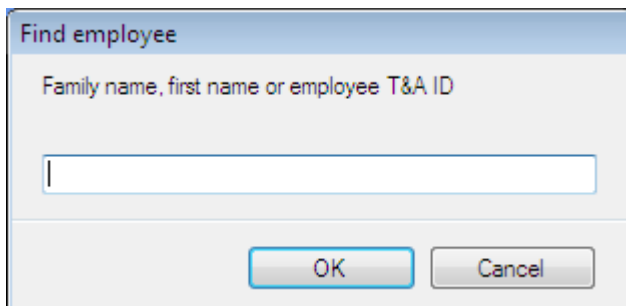

Figure 36. Finding employee dialog box
- ◆ **Find employee...** — opens the **Find employee** dialog box (Figure 36).